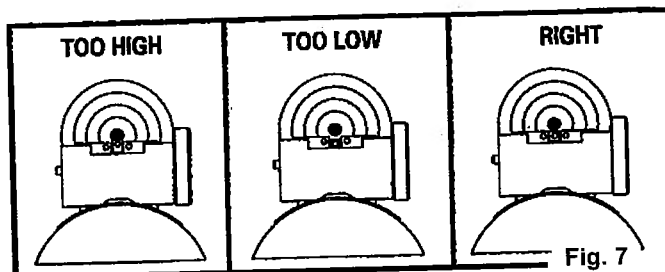

Fig. 7
- The airgun is correctly aimed when the front sight is positioned exactly in the notch of the rear sight. The top of the front sight blade should be even with the top of the notch in the rear sight. The bull's-eye should appear to rest on the top of the front sight (Fig. 7).